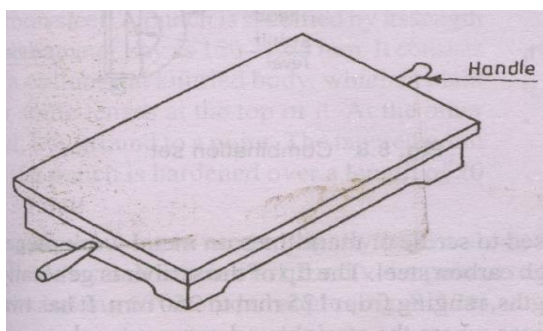

Fig. 2.4 Surface plate
2.2.2.1 Surface plate The surface plate (Fig. 2.4) is machined to fine limits and is used for testing the flatness of the work piece. It is also used for marking out small works and is more precise than the marking table. The degree of fineness of the finish depends upon whether it is designed for bench work in a fitting shop or for using in an inspection room. The surface plate is made of cast iron, hardened steel or granite stone. It is specified by length ' width ' height' grade. Handles are provided on two opposite sides, to carry it while shifting from one place to another.
2.3.2.2 Checking flatness and squareness To check flatness, the try-square is placed as shown in Fig. 2.4 la. No light should be seen between the bottom edge of the square and the top surface of the work piece, when both are held against light. Similarly, the flatness across thickness of plate is tested as shown. The squareness of one edge with respect to another reference edge is checked as